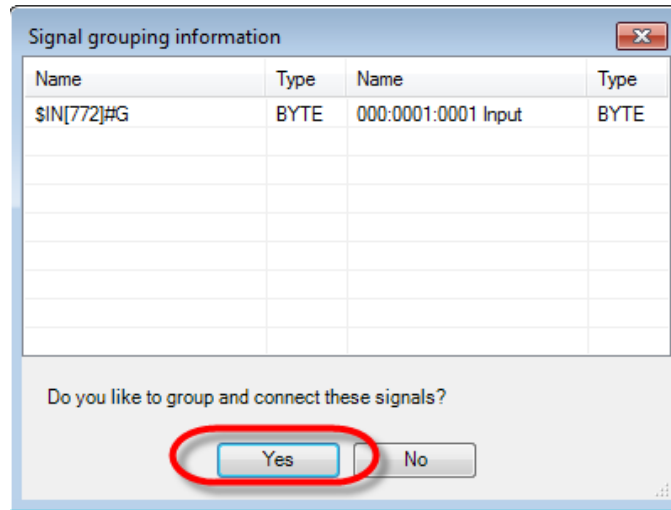

Figure 25.
2. When the Signal grouping information popup shown in Figure 25 appears, click the Yes button to enable several bits grouping to make a byte/word.